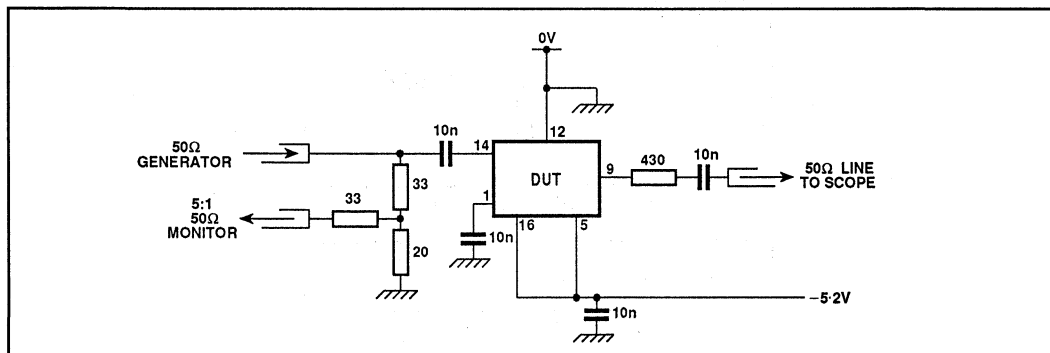

Fig. 5 SP8735 high frequency test circuit
3. The test configuration for dynamic testing is shown in Fig.5.